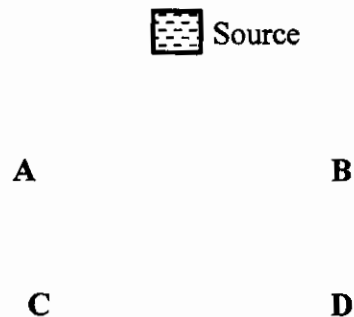

Figure Q3-2
- B. It is desired to lay a pipe network connecting the source (reservoir) to the demand areas A, B, C and D shown in figure Q3-2 below. Draw a pipe network layout with maximum reliability (minimum interruption) and state the overall network reliability for the network you have drawn .....[5 Marks]